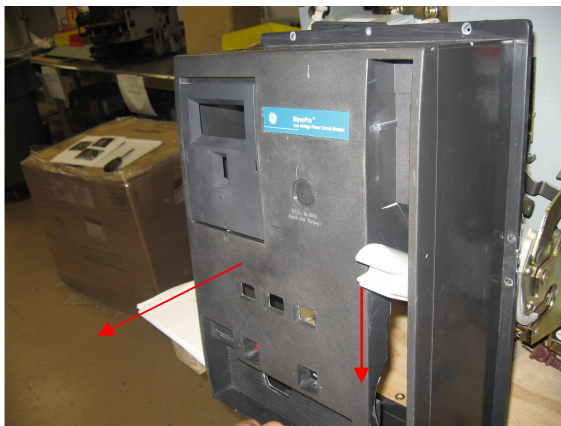

Figure 3
2. Remove the front cover by pulling it towards you as you face the breaker. Slowly pull the manual charging lever down as you begin to remove the cover and slide the cover over it as you pull the cover out. This can be seen in Figure 3.